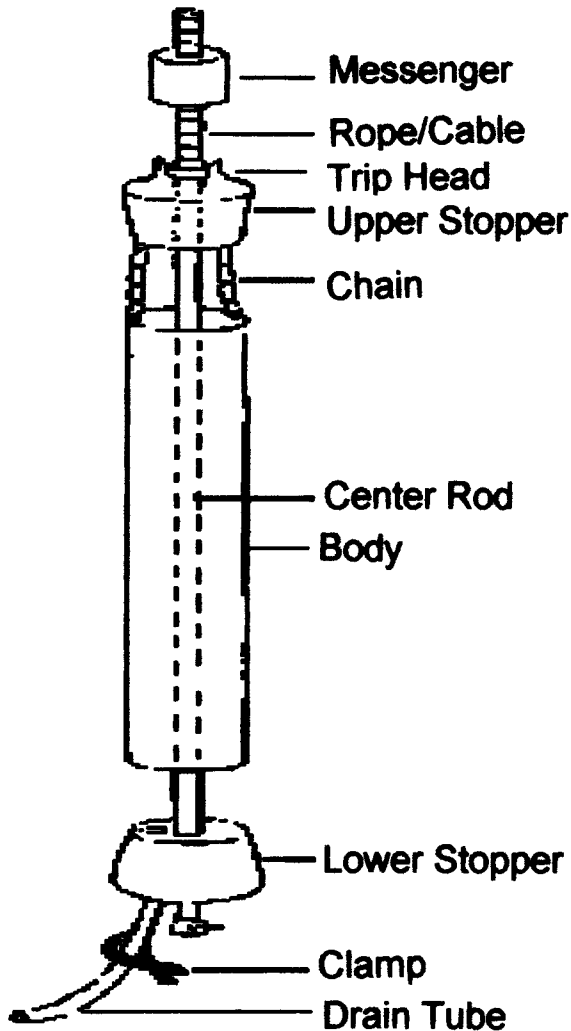

FIG. 6 Kemmerer Sampler
6.6.1 Description—The Kemmerer sampler consists of a cylinder with a stopper at each end. The ends of the cylinder are left open as the sampler is being lowered, in a vertical position, to allow free passage of liquid through the cylinder (see Fig. 6). The stoppers, usually rubber, are attached to a line or cable that runs through the cylinder. At the upper end of the line is a weight called a “messenger.”